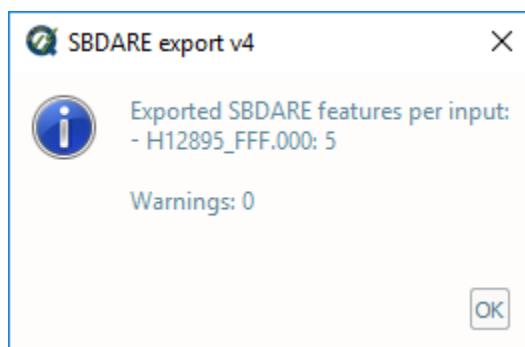

Fig. 2.53: SBDARE exports output message.
- After computing, the output window opens automatically, and the results are shown. Any errors that occur while processing will appear in the output message. (Fig. 2.53):